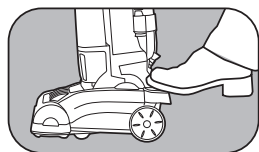

Fig. 1
1. To release the handle, step on the handle release pedal on the left side of the vacuum nozzle from the user's perspective and pull back the handle (Fig. 1).